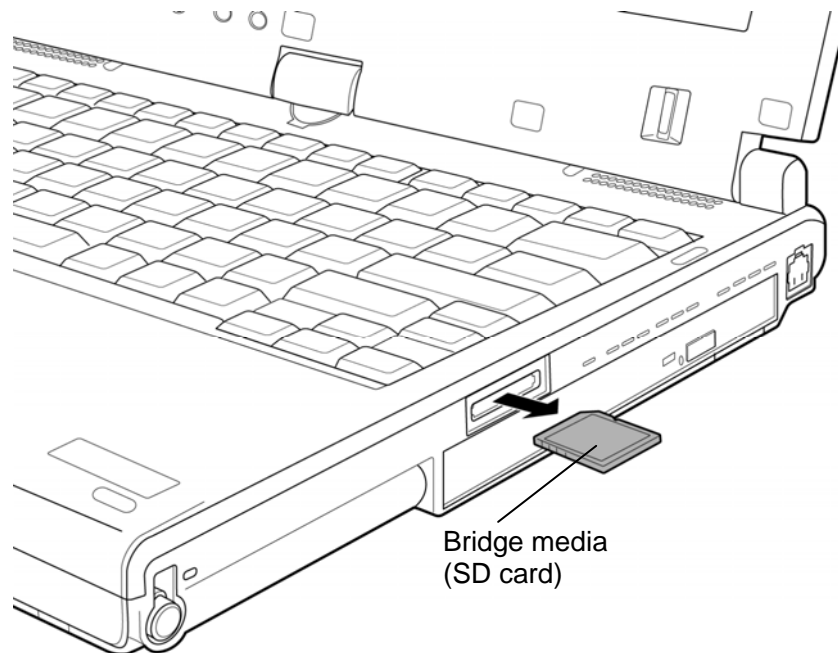

Figure 4-4 Removing the Bridge media
The following describes the procedure for removing the Bridge media. (See Figure 4-4.)
1. Push the **Bridge media**. It will pop out partly, so pull out the card. (For an instance, SD card is described in the figure 4-4.)
The following describes the procedure for installing the Bridge media. (See Figure 4-4.)